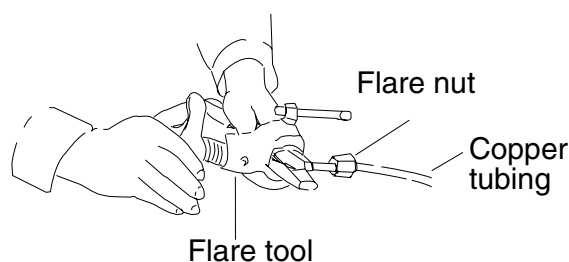

Fig.27
- Make a flare at the end of copper tube with a flare tool.* (Fig.27)